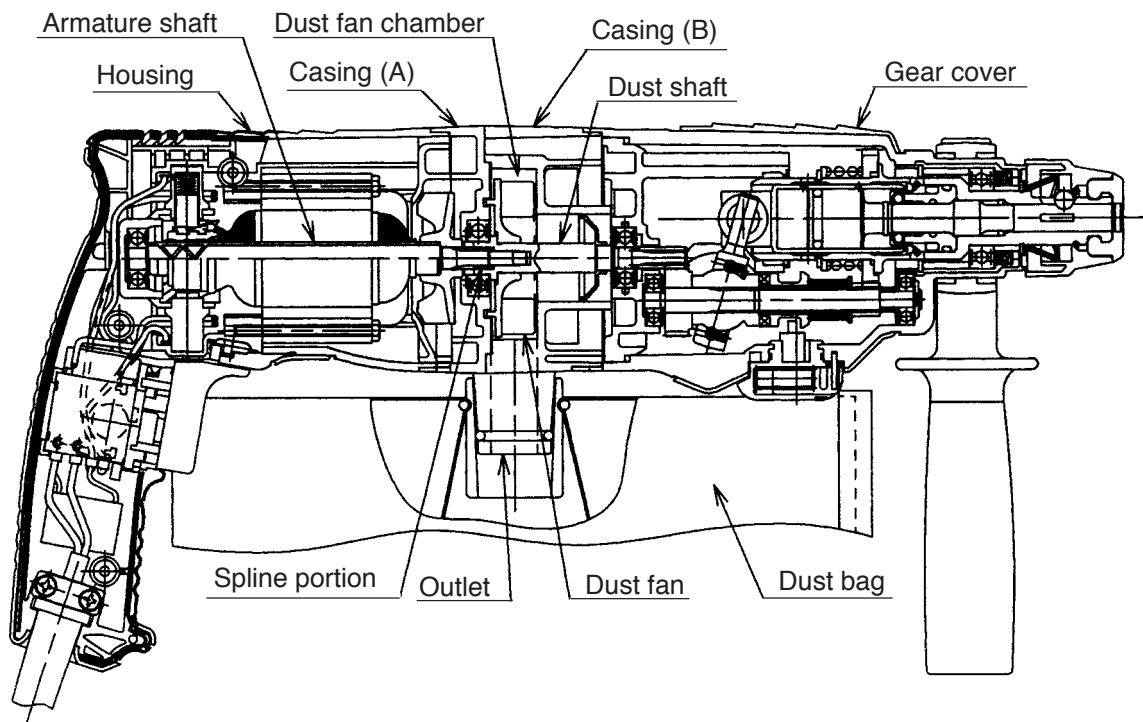

Fig. 3
As illustrated in Fig. 3, the Model DH 24PD3 is provided with a dust fan chamber, consisting of casing (A) and casing (B), located between the gear cover and housing. Dust is drawn in from the nozzle of the dust collection adapter ass'y by the suction provided by the dust fan mounted inside the dust fan chamber, and is deposited in the dust bag. The dust shaft on which the dust fan is mounted, is connected to the armature shaft by a spline, and rotates at the same speed as the armature.